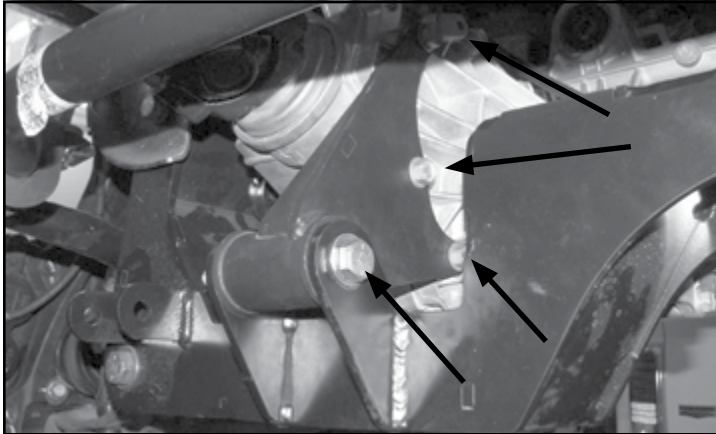

FIGURE 28 - STEP 24
24. Install diff bracket using the factory bolts and the 1/2-13 x 4-1/2" bolt, nut, and washers. Torque 1/2" hardware to 127 ft-lbs and factory hardware to 58 ft-lbs **SEE FIGURE 28**